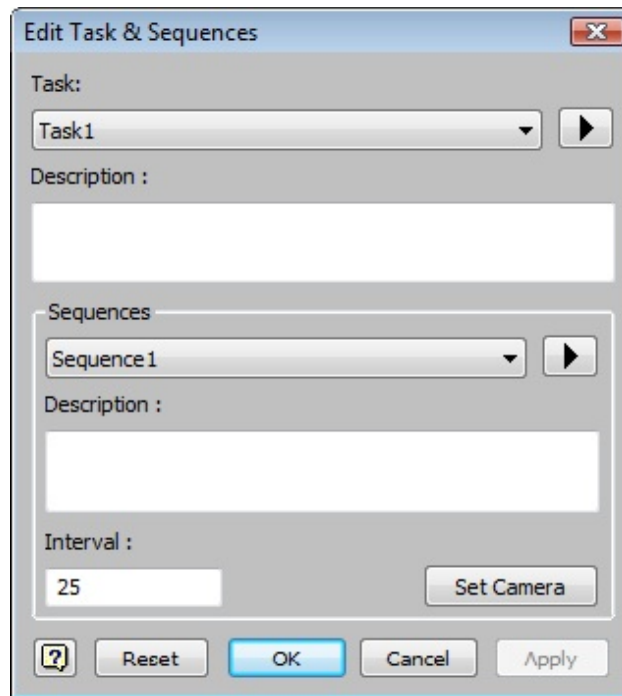

Figure 13-22 The **Edit Task & Sequences** dialog box
9. Right-click on **Task1** and then choose **Edit** from the shortcut menu displayed; the **Edit Task & Sequences** dialog box is displayed, see Figure 13-22.